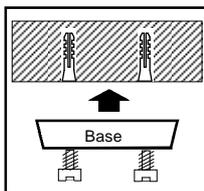

Fig. 3
- 2) Utilizing the screws provided fix the base (see Fig. 3).